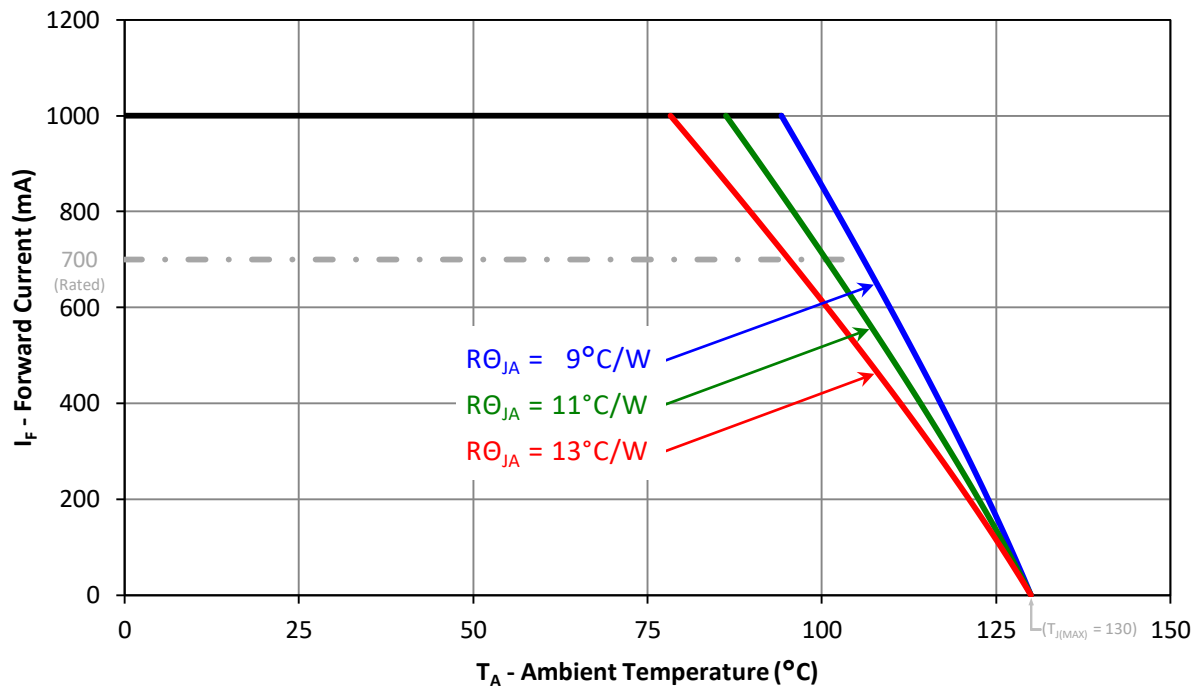

Figure 11: Maximum forward current vs. ambient temperature based on  $T_{J(MAX)} = 130^\circ\text{C}$ .
- Maximum DC forward current is determined by the overall thermal resistance and ambient temperature. Follow the curves in Figure 11 for current derating.
Notes for Figure 11: